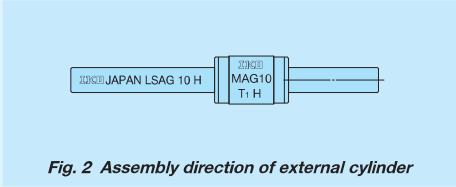

Fig. 2 Assembly direction of external cylinder
- The non-interchangeable specification products are already adjusted so as to provide the best accuracy when the marks of the external cylinder and the spline shaft face the same direction (see Fig. 2). Be careful not to change the assembly direction.